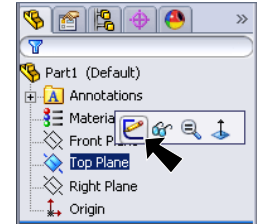

Fig. 1
- Step 2. Click **Top Plane**  in the Feature Manager and click **Sketch**  from the Content toolbar, **Fig. 1**.